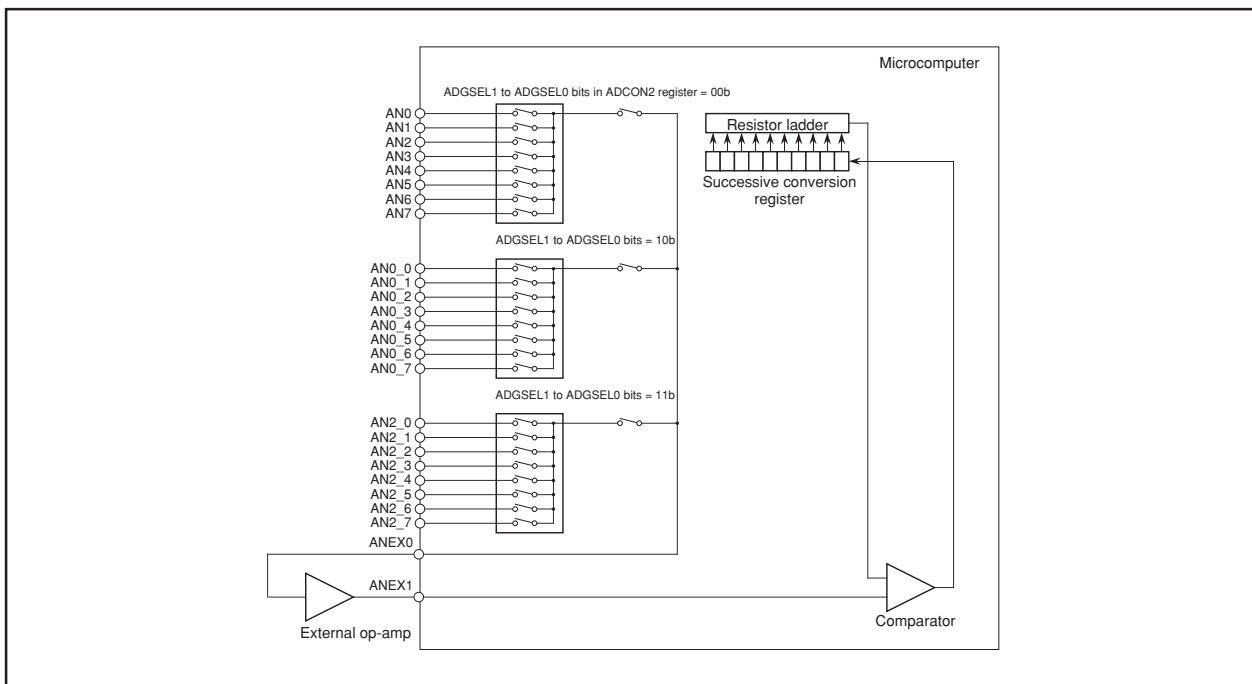

Figure 15.9 External Op-Amp Connection
Multiple analog inputs can be amplified using a single external op-amp via the ANXE0 and ANEX1 pins. Set the OPA1 to OPA0 bits in the ADCON1 register to "11b" (external op-amp connection mode). The inputs from ANi ( $i = 0$  to 7) (1) are output from the ANEX0 pin. Amplify this output with an external op-amp before sending it back to the ANEX1 pin. The A/D conversion result is stored in the corresponding ADi register. The A/D conversion speed depends on the response characteristics of the external op-amp. Figure 15.9 shows an example of how to connect the pins in external operation amp.